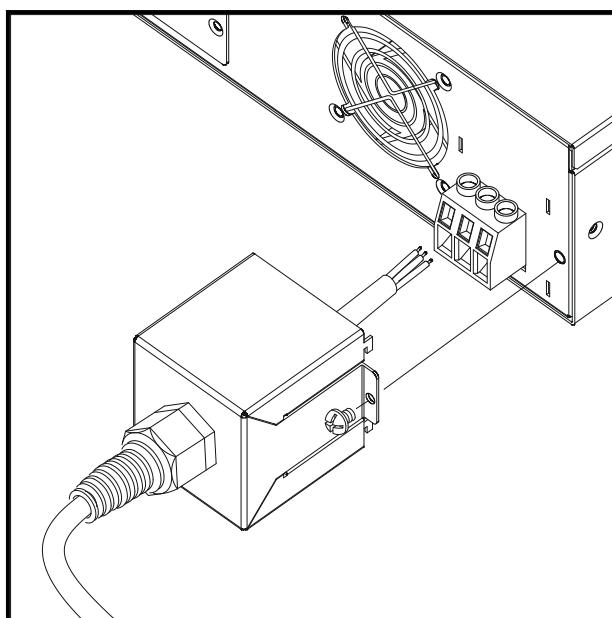

Figure 2-2
- (1) The input connector board is located at the right of rear panel.
- (2) The power line must be 85°C rated at least.
- (3) The power cable width must be within 10AWG~12AWG. (**Note:** 62050P must be within 8AWG ~10AWG when connecting 3-phase 4-wireΔ.)
- (4) To assemble 62006P, 62012P & 62024P ➔ see Figure 2-2 and execute the following steps: